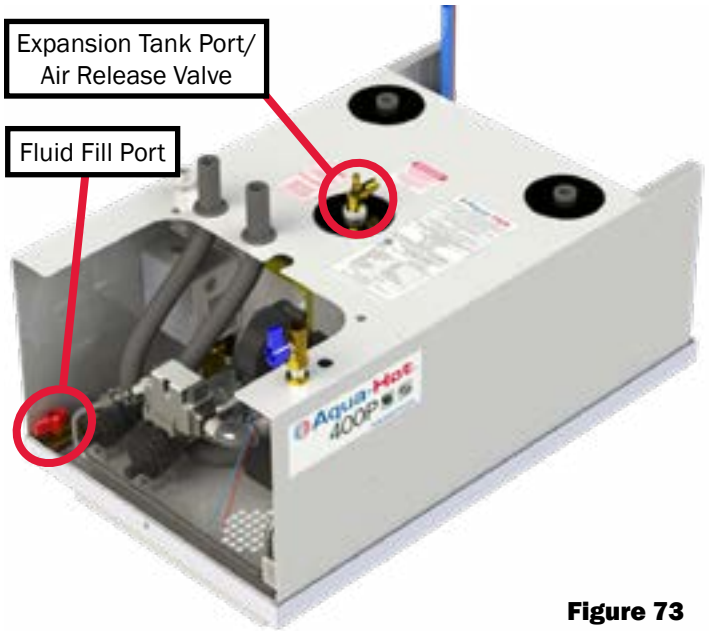

Figure 73
3. Open the Aqua-Hot’s drain valve located at the front of the heater. Reference Figure 73.